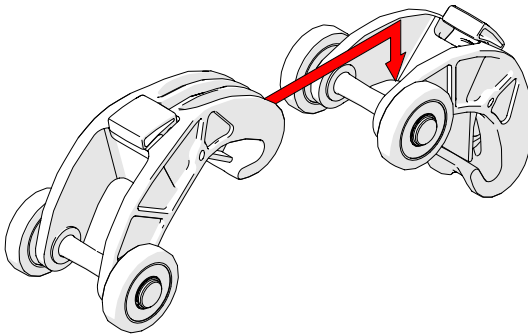

Fig. 70 - Lift the hook over the axle of the QuickLink
1. Lift the hook of the QuickLink over the axle of the QuickLink that is to be connected (*Fig. 70*).